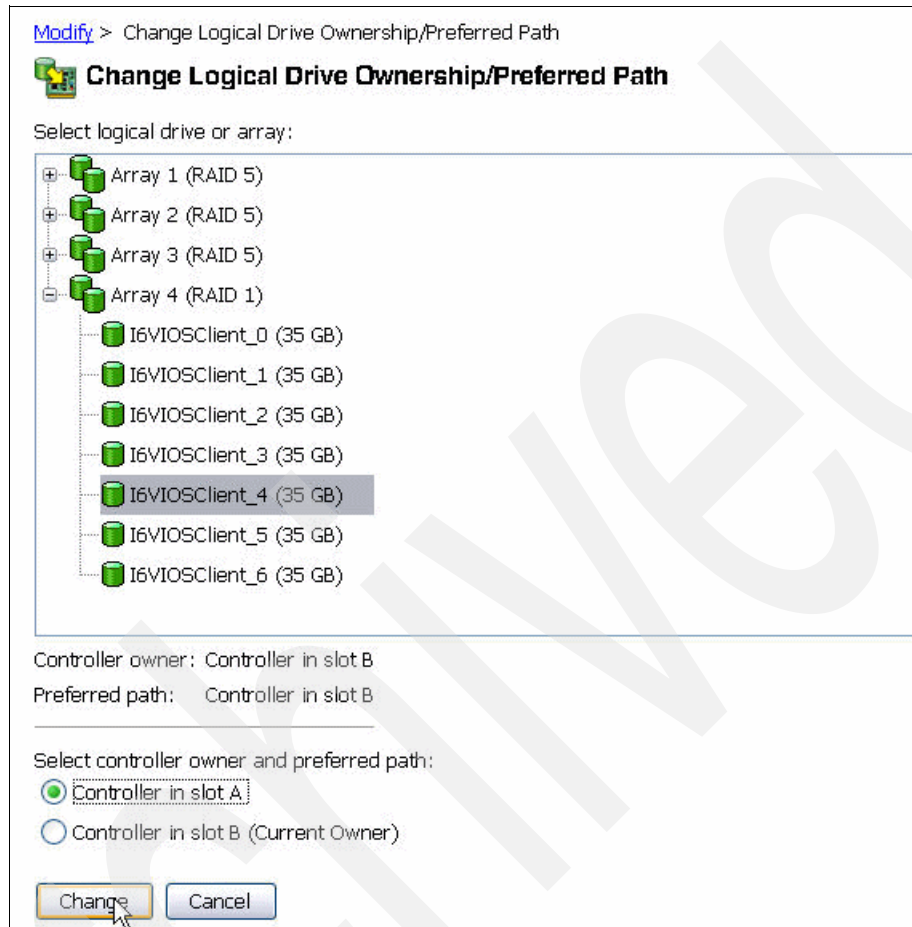

Figure 7-36 Change controller ownership and preferred path
2. All seven defined logical drives are assigned to controller B. Therefore, we change assignment of three drives to controller A. For this, we check the box at controller A and click **Change** at each drive that we want to be assigned to A. Changing drive assignment is shown in Figure 7-36.